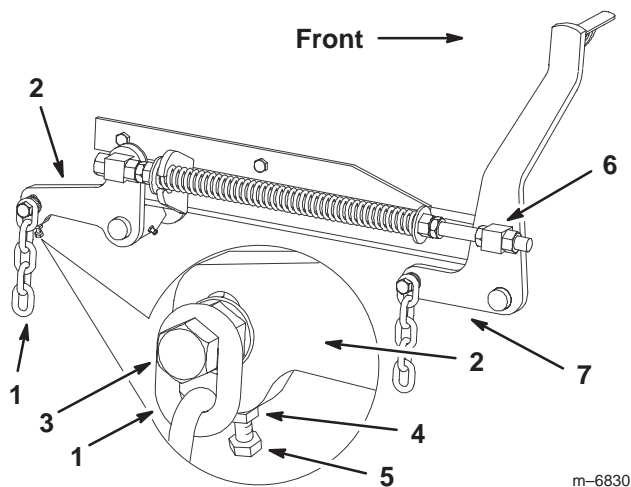

Figure 69
7. If the measurements at positions **B** or **C** are not correct, loosen the bolt attaching the rear chain to the rear support arm (Fig. 69).